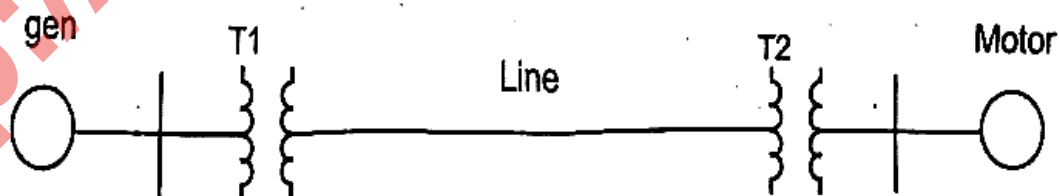

Figure 2
- (b) A synchronous generator and a synchronous motor each rated 25 MVA, 11 kV having 15% sub-transient reactance are connected through transformers and a transmission line as shown in figure 2. The transformers are rated 25 MVA, 11/66 kV and 66/11 kV with leakage reactance of 10% each. The line has a reactance of 10% on a base of 25 MVA, 66 kV. The motor is drawing 15 MW at 0.8 power factor leading at a terminal voltage of 10.6 kV. When a symmetrical three-phase fault occurs at the motor terminals, find the sub-transient current in the generator, motor and fault. [8]